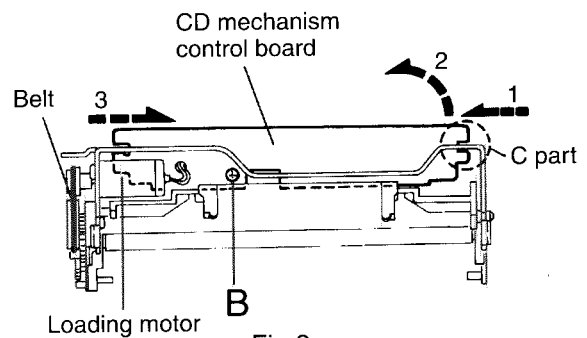

Fig.2
4. Remove the one screw B retaining the CD mechanism control board(See Fig. 2).
5. After disengaging the engagement between the notch section c and frame,remove the CD mechanism Control board successively from 1 through to 3 in the arrow direction as shown in Fig. 2.